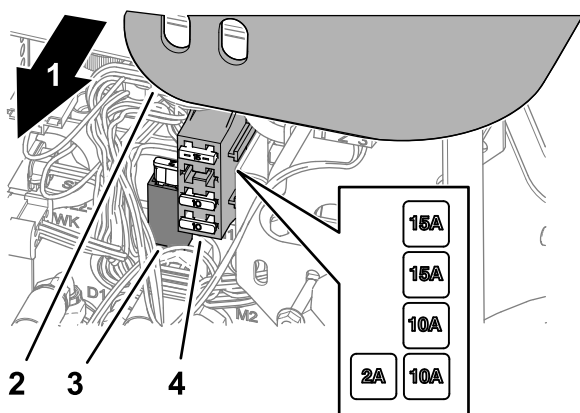

Figure 78
4. Assemble the cover onto the control arm (Figure 78).
1. Lift the cover from the control arm (Figure 78).
2. Locate the open fuse in the fuse holder or fuse block (Figure 78).